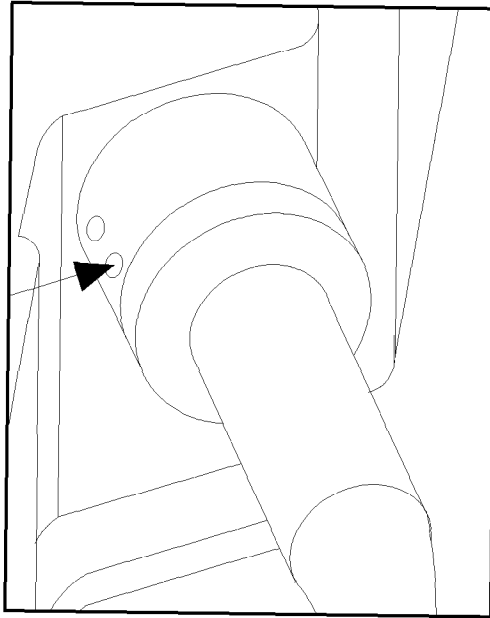

Figure 4-1. Location of Screw Holding Trigger Pack
3. Using a 1.5 mm hexagonal key, loosen the front screw holding the trigger pack in the lamp compartment, see Figure 4-1. *Do not* remove this screw.